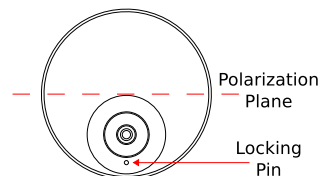

Figure 2.2: Top view of radar antenna and its polarization plane.
- The minimum measuring distance is at 2 meter. As such, the sensor should be mounted with its reference point at least 2 meter above the highest expected waterlevel during the period in which the water surface is monitored. The reference level for the mounting height of the radars is shown in Fig. 2.2.